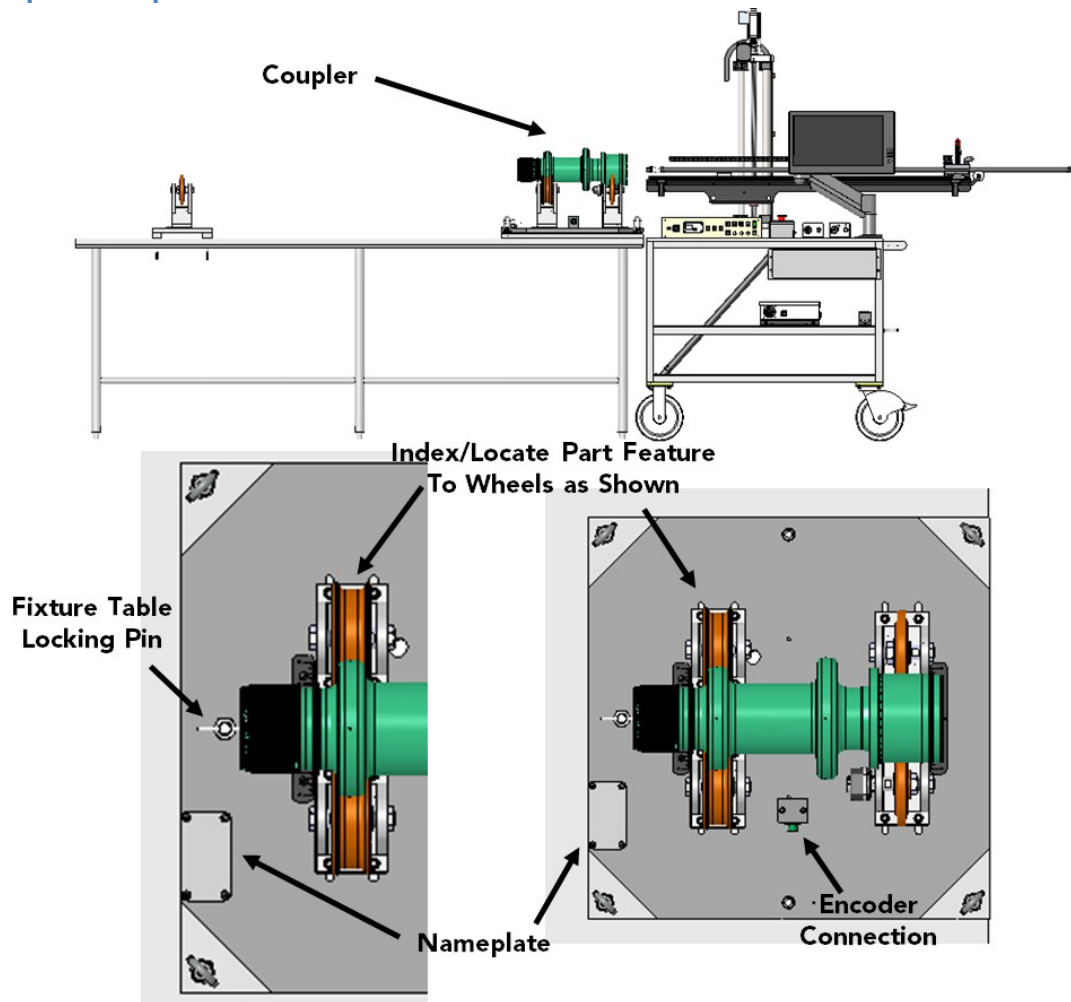
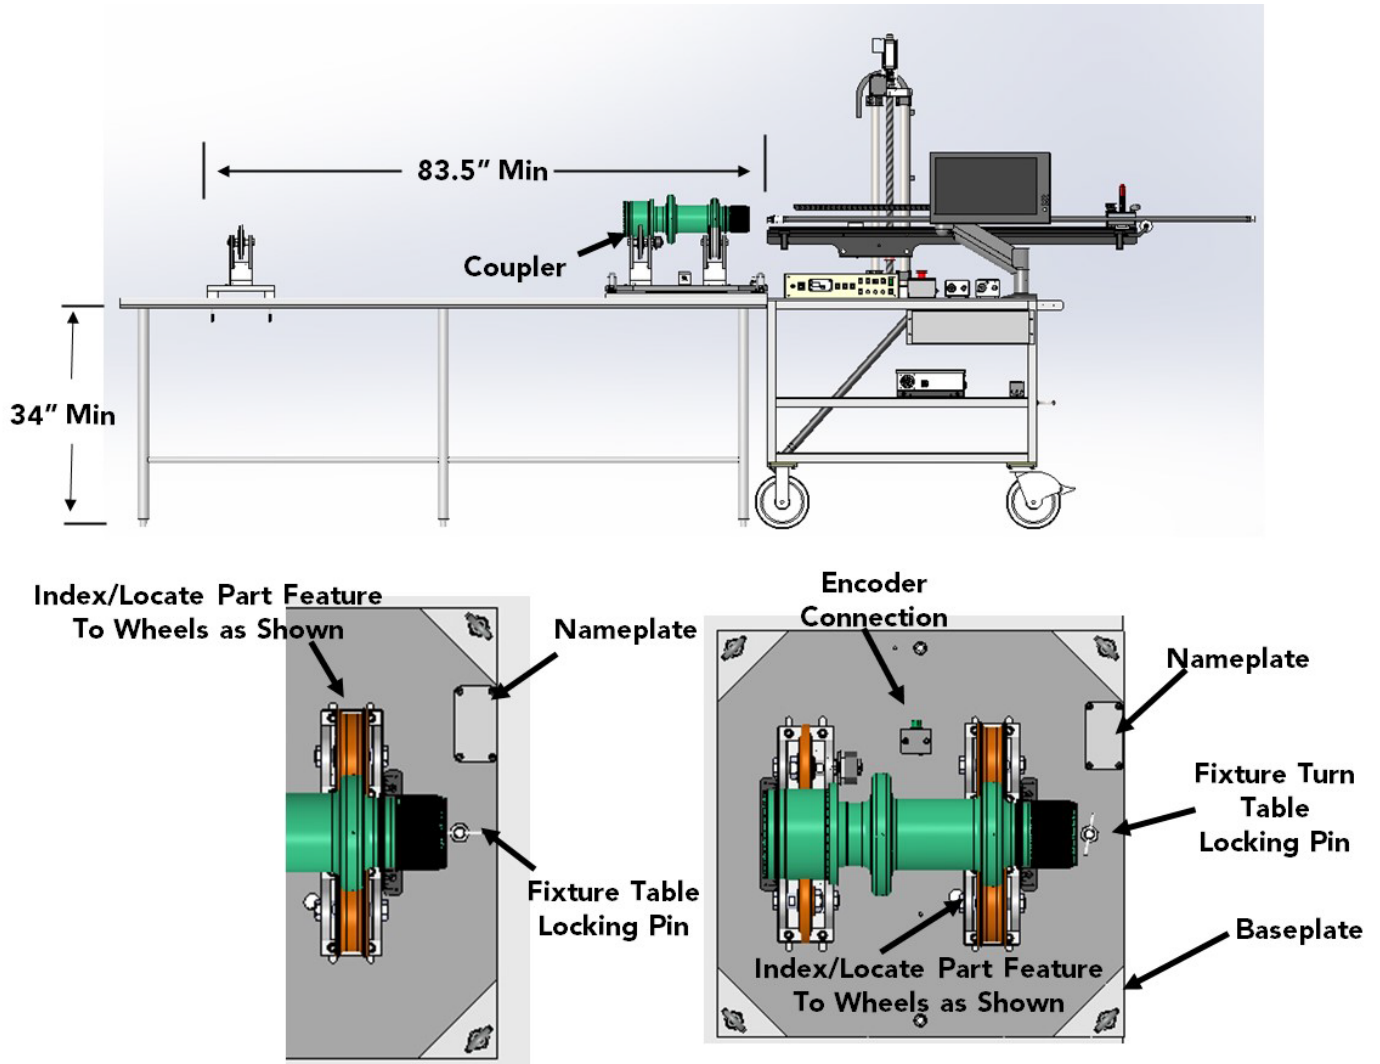

Figure 18 Coupler Setup One
Figure 19 Coupler Setup Two
- 4) Rotate fixture, if needed see Figure 18 or Figure 19